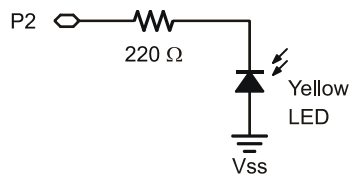
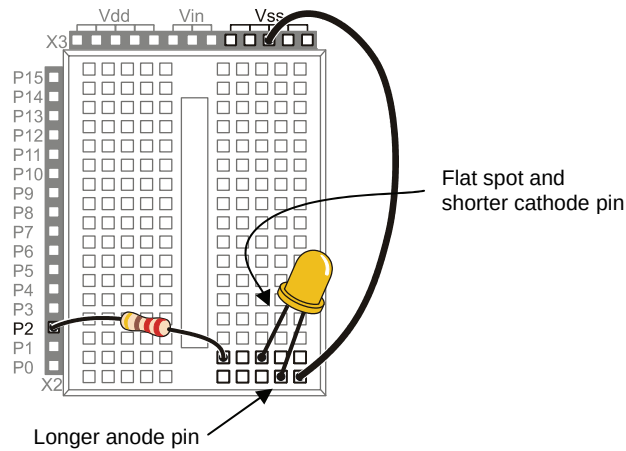

Figure 7-22
Figure 7-23
One major difference between the LED and phototransistor is that the LED conducts much less current for the same amount of light, so it takes very bright light for the LED to conduct enough current to discharge the capacitor quickly enough for the **RCTIME** measurement. Remember that the maximum time measurement the **RCTIME** can measure is $65535 \times 2\ \mu\text{s} \approx 131\ \text{ms}$. So for good RC decay measurements with the BASIC Stamp, a much smaller capacitor is needed. In fact, the circuit works better without any external capacitor. The LED has a small amount of capacitance inside it, called *junction capacitance*, and the metal clips that hold wires you plug into the breadboard also have capacitance. Reason being, a capacitor is two metal plates separated by an insulator called a dielectric. So two metal clips inside the breadboard separated by plastic and air forms a capacitor. The combination of the LED's junction capacitance and the breadboard's clip capacitance makes it so that you can use the LED without any external capacitor, as shown in Figure 7-22.
- ✓ Build the circuit shown in Figure 7-22 and Figure 7-23, using the yellow LED. Make sure to observe the polarity shown in the figures!
- ✓ Start with a green LED in the Figure 7-22 and Figure 7-23 light detection circuit.